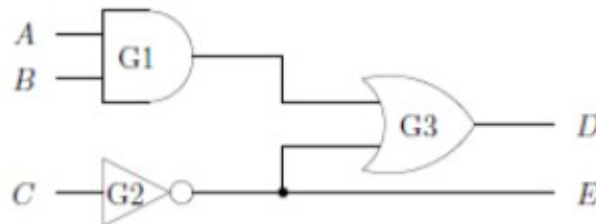

Figure 2: Simple
2.1.4. A simple program modeling a circuit (Figure 2) at the gate level is described below.